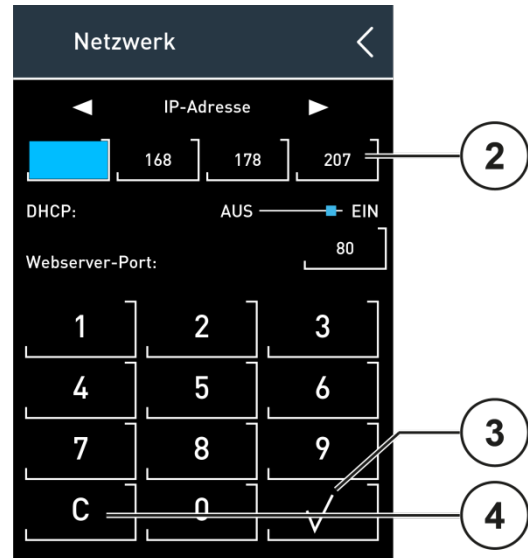

Fig. 17: 10-key keyboard
- ▶ Tap on a number group of the *IP address* **(2)**. A keyboard with 10 keys is displayed (Fig. 17).